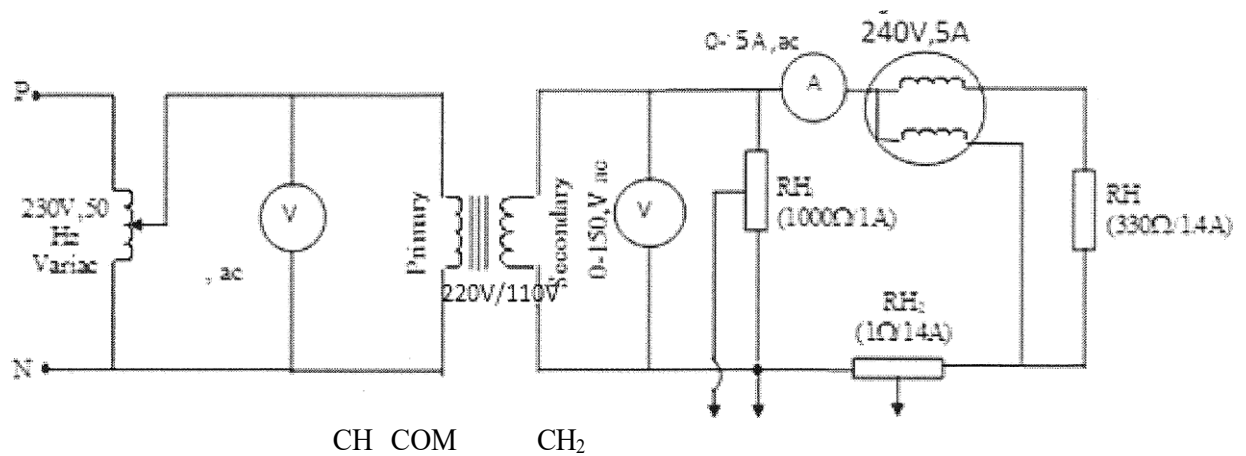

Figure 3. Circuit Diagram
1. Connect the circuit as shown in Figure 3.
9. Connect the input, as in Figure 3, to the supply.